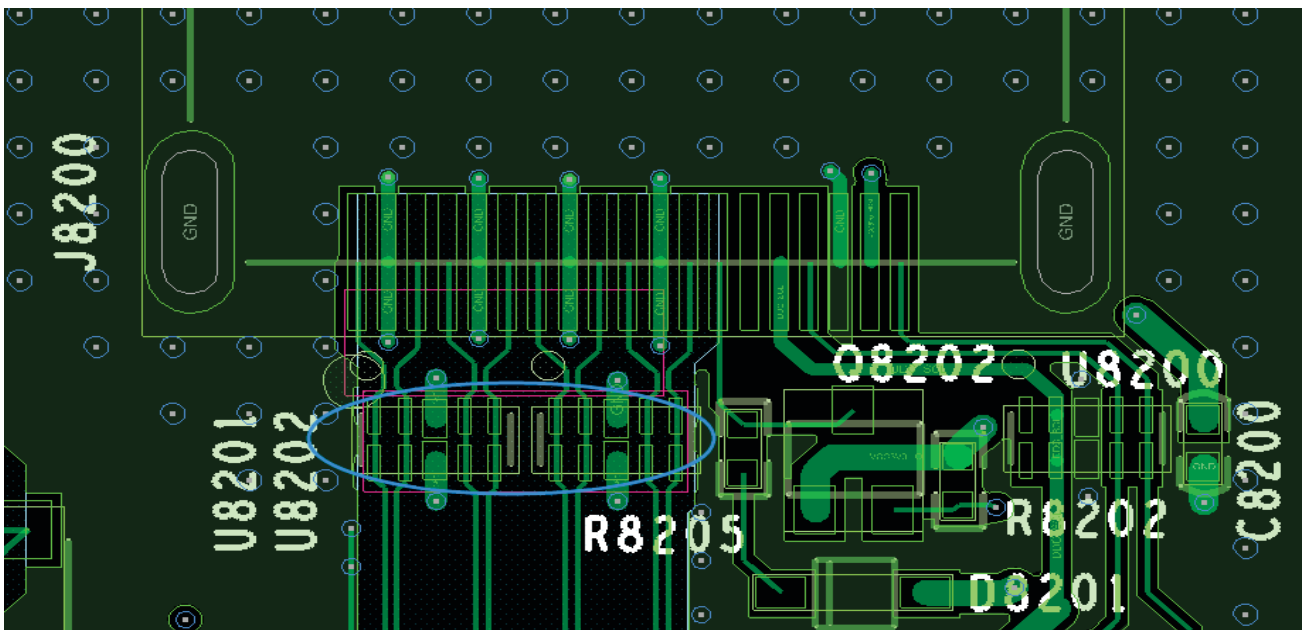

Figure 4-35 HDMI ESD Layout Requirements
- The delayed serpentine traces of MIPI DSI signal should be placed as close as possible to the source. Shown as Figure 4-35.